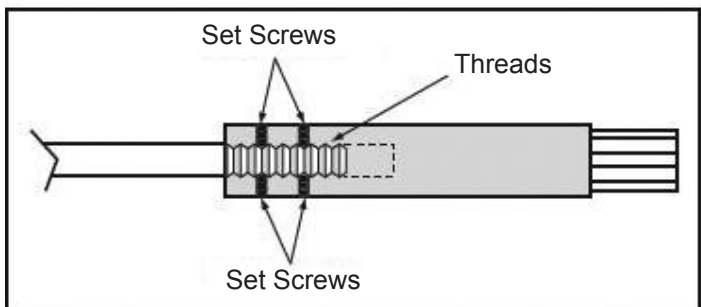

Figure 8. Example of new drawbar.
7. Thread the new drawbar shaft into the bottom of the new bolt head, as shown in Figure 8.
Note: We recommend the addition of four M5-.8 x 10 set screws applied through the bolt head to further secure the drawbar shaft, as shown in Figure 8.